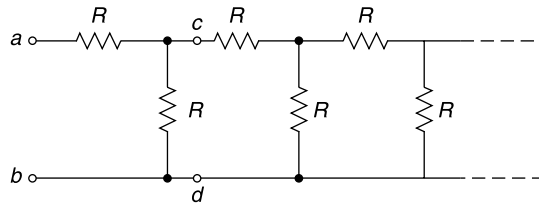

Fig. 1.13
15. Find the equivalent resistance between points a and b of the infinite ladder shown in Fig. 1.13. (Ans: $R_{\text{eq}(a-b)} = \frac{1 + \sqrt{5}}{2} \cdot R$)